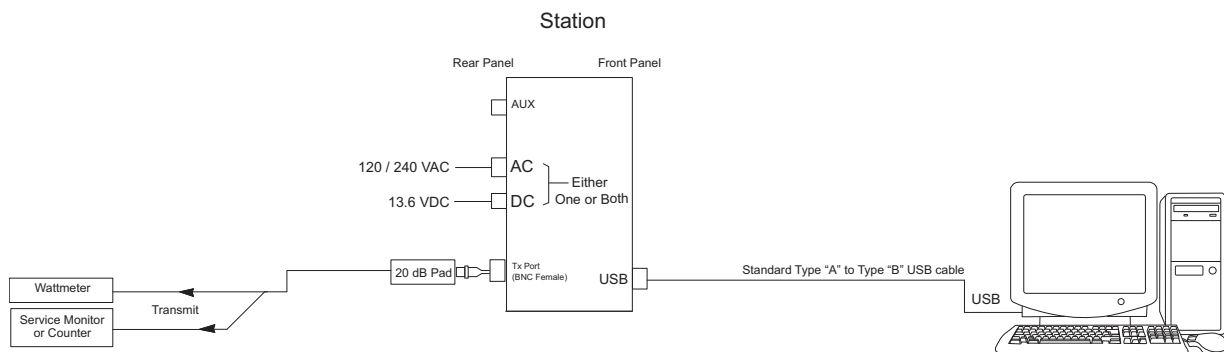

Figure 10-5 SLR 5000 Series Repeater Tuning Equipment Setup
A personal computer (PC), Windows™ operating system, and the MOTOTRBO Tuner application are required to align the repeater. To perform the tuning procedures, the repeater must be connected to the PC and test equipment setup as shown in Figure 10-5.